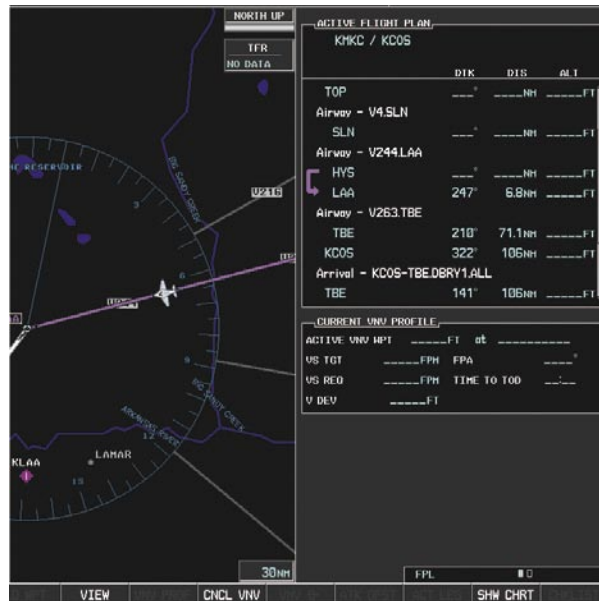

Figure 5-105 HYS to LAA Leg Active
10) At Lamar VOR (LAA) V263 is intercepted. See Figure 5-105.